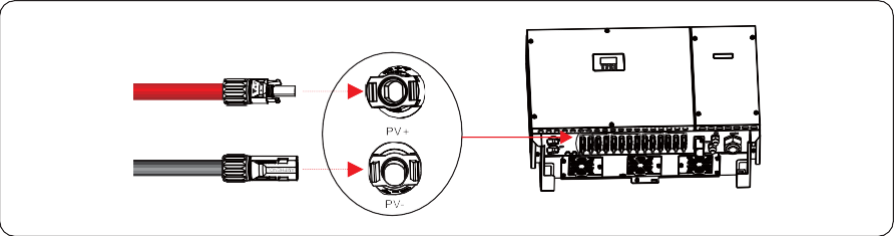

Figure 5.13 Connecting to the inverter
**Step 6** Insert the positive and negative connectors into their corresponding terminals of the inverter until a "click" sound is heard, as shown in Figure 5.13.